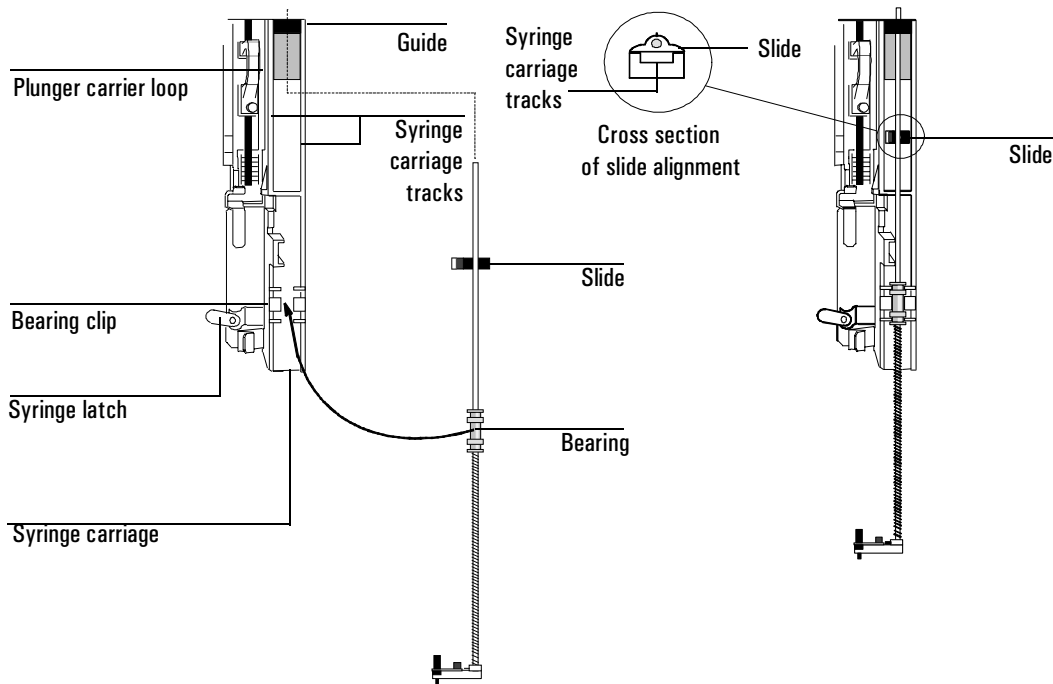

Figure 14 **Installing the needle support assembly (250-/320- μ m shown)**
7. Turn the needle support assembly so that the flat surface of the slide glides up and down the syringe carriage tracks as shown in Figure 14.